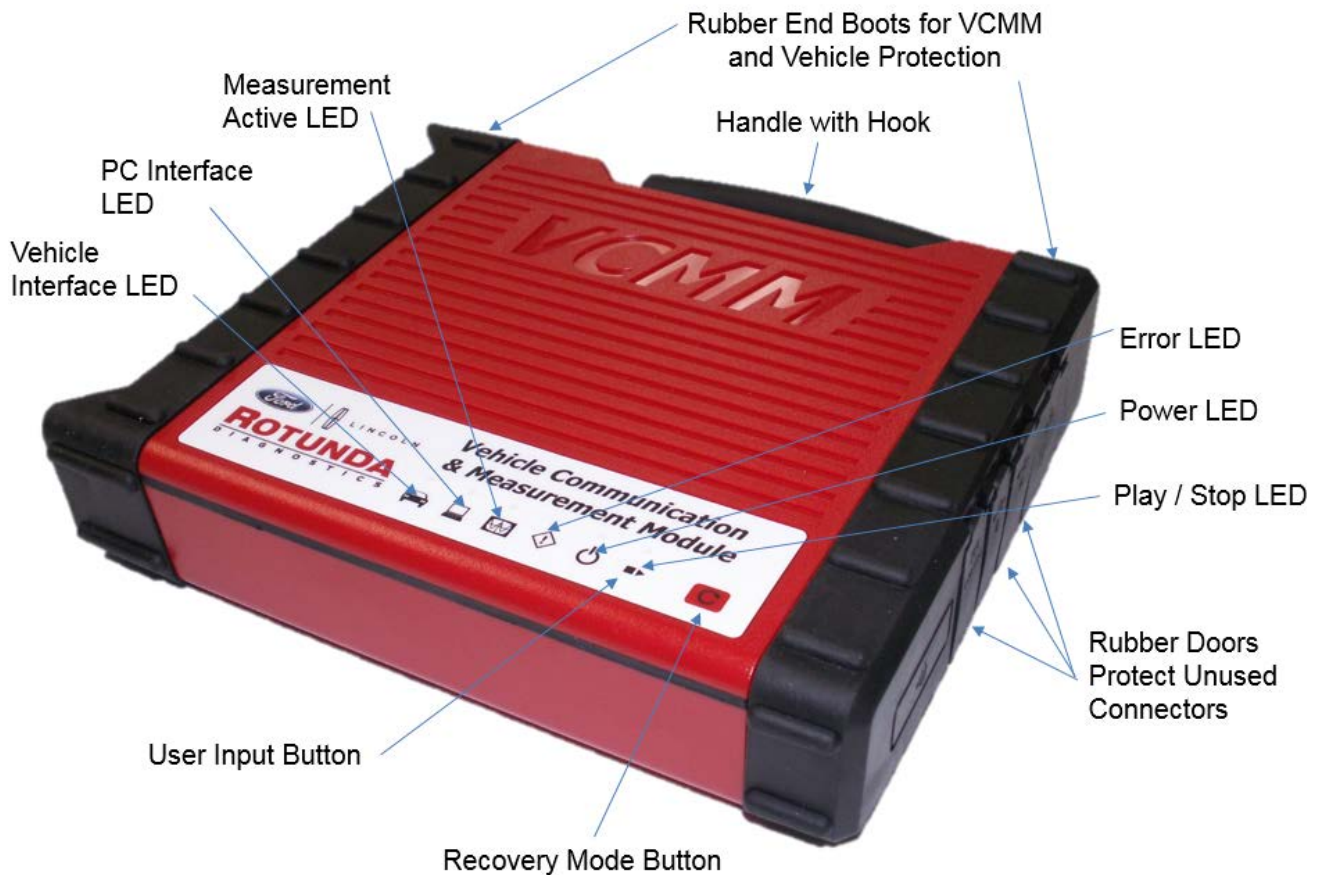

Figure 1
The VCMM is used by technicians as a tool in diagnosing and repairing automotive electrical and electronic systems. The VCMM is designed to connect the vehicle to a PC application which then functions through the VCMM for data transfer, vehicle measurements, signal generation, vibration analysis and ECU reprogramming. Refer to Figure 1 and 2 below for the VCMM hardware features and functions.
4. Press and hold the Recovery Mode button for 3 seconds until the red Error LED turns on (see Figure 1).